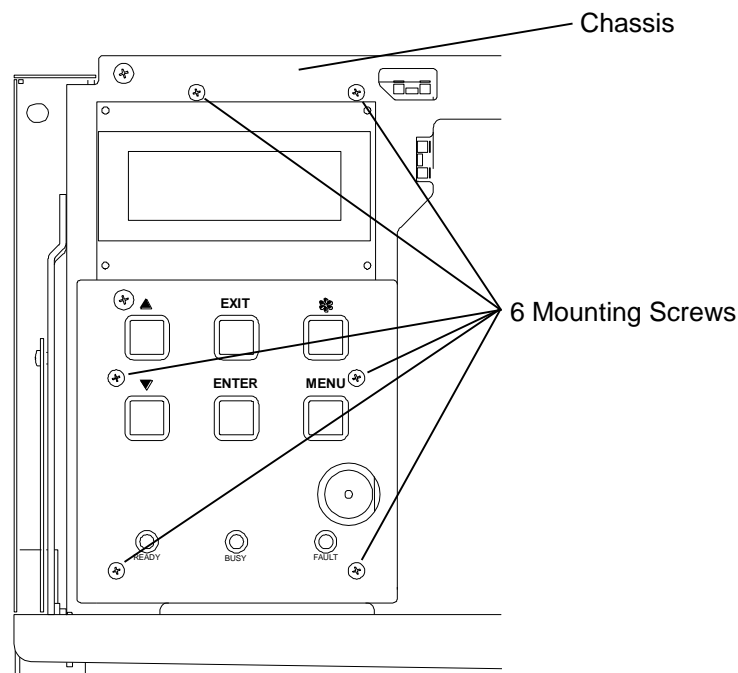

Figure 7-22 Serial Control Panel PCBA
4. Using a No. 1 Phillips screwdriver, remove the six screws that hold the PCBA in place. See Figure 7-22.
2. Using a No. 1 Phillips screwdriver, reinstall the six flat-head screws that were previously removed. See Figure 7-22.